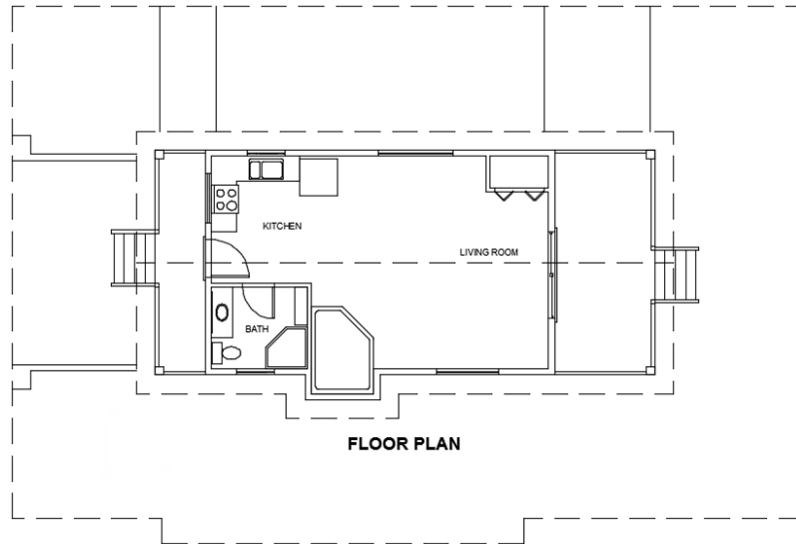

FIGURE 8.31: The column lines are trimmed back to the newly offset rooflines.
14. Use the TRIM command to trim each of the column lines back to the roofline, as shown in Figure 8.31.